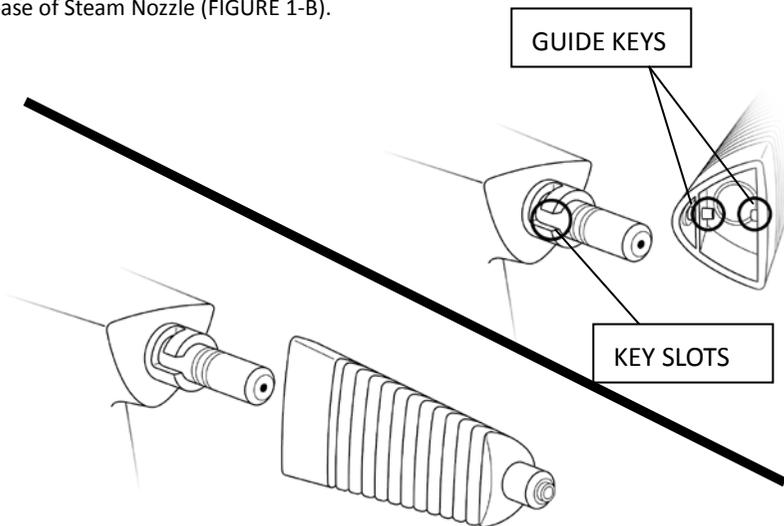

FIGURE 1
1. Align Jet Nozzle with Steam Nozzle as shown (FIGURE 1-A). Jet Nozzle should be sideways 90° counter-clockwise from its final position. Guide keys on Jet Nozzle should line up with key slots on base of Steam Nozzle (FIGURE 1-B).